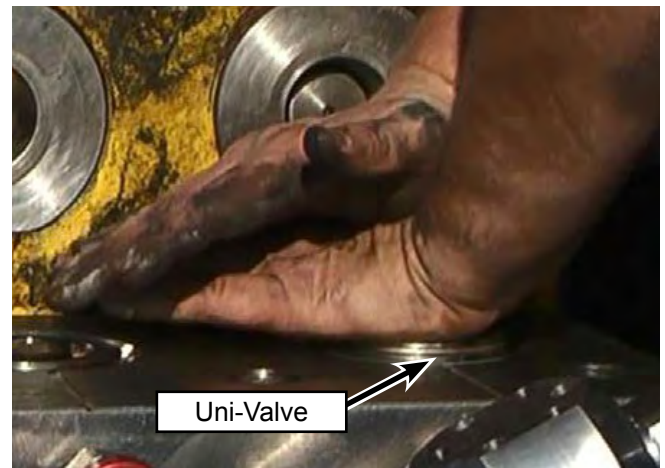

Figure 77: Press Uni-Valves into Manifold.
1. Place the valve into position on the manifold. Using the palms of your hands, press the valve into the manifold as shown (Figure 77).